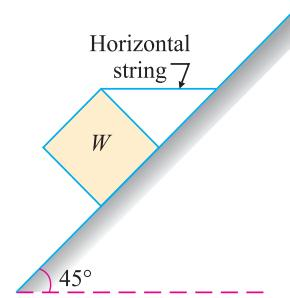

Fig. 8.26.
3. A rectangular prism (W) weighing 150 N, is lying on an inclined plane whose inclination with the horizontal is shown in Fig. 8.26.